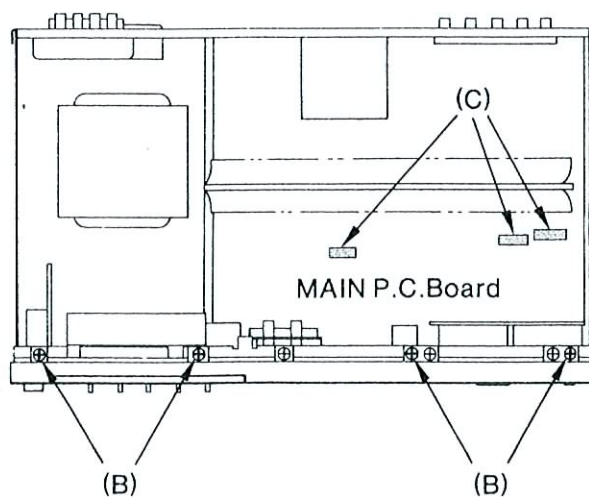

Fig. 2
3. Remove four screws (B) fastening Front Panel. (Fig. 2)
4. Remove three Connectors (C).